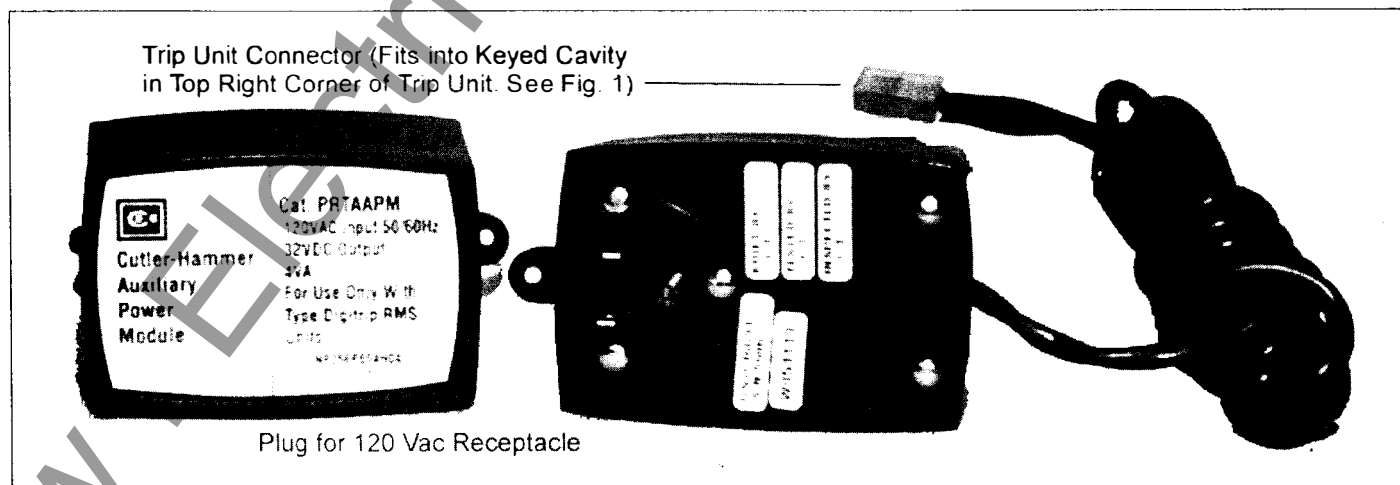

Fig. 7 Auxiliary Power Module
Since the Digitrip RMS 510 Trip Unit is completely self-powered using energy derived from the current sensors installed in the circuit breaker, all in-service tests conducted should be conducted with the auxiliary control power module, shown in Fig. 7, plugged into the trip unit. This action will avoid difficulties caused by load current levels that are too low to operate the trip unit.
- 1) **Before starting any test sequence**, check the Unit Status (Green LED) in the lower right corner of the trip unit (See Figs. 1 and 5) to be sure it is blinking on and off about once each second, which indicates that the trip unit is functioning normally. In the event the Unit Status LED is not blinking, install an Auxiliary Power Module (APM) (See Fig. 7), or if you have one already, check to see that it is connected correctly.
- a) *the current is not less than 10% of the breaker frame (or current sensor) rating; be sure the “GREEN” Unit Status LED (in the lower right corner of the trip unit (See Figs. 1 and 5) is blinking on and off (indicating that there is enough current flowing to provide the power necessary to operate the trip unit). In the event the Unit Status LED is either lighted “GREEN” or “OFF” continuously, there is NOT enough current flowing to power the trip unit; and an APM (See Fig. 7) should be installed before proceeding with the test.*
- 3) **When performing tests on the Long Delay element**, be aware that in addition to the standard protection element, the Digitrip RMS 510 Trip Unit also has a Long Time Memory function (LTM), which serves to protect load circuits from the effects of repeated overload conditions. (See NOTE 1 under Section 4.3 Long Delay Time Setting.) The action of the LTM will have the same effect of advancing the Long Delay Trip Time if multiple Long Delay Time tests are performed repeatedly - as one might do in making single phase tests on each pole of a breaker in succession, for example. If you have sufficient experience in performing tests with this kind of accelerated trip timing, you may be comfortable with the results of tests performed in quick succession. However, if there is any question, you may simply wait about ten (10) minutes after a Long Delay Trip for the LTM to reset, before you check the next pole.
For testing the trip unit, an optional Auxiliary Power Module (Cat. No. PRTAAPM) as shown in Fig. 7 is recommended. This Auxiliary Power Module, which operates from a separate 120 Vac supply, may be used when a drawout circuit breaker is in any of its four cell positions, i.e., “Connected”, “Test”, “Disconnected” and “Withdrawn” (or “Removed.”)
**Note: For Testing Purposes Only:** When using an external single phase current source to test low level ground fault current settings, it is advisable to use the Auxiliary Power Module (APM) (See Fig. 7). Especially when the single phase current is low, without
The Auxiliary Power Module or APM (Cat No. PRTAAPM), illustrated in Fig. 7, is an encapsulated power supply that requires a 120 Vac input at either 50 or 60 Hz. It provides an output of 32 Vdc (nominal 40 Vdc open circuit) which can be used for testing a Digitrip RMS 510 Trip Unit.